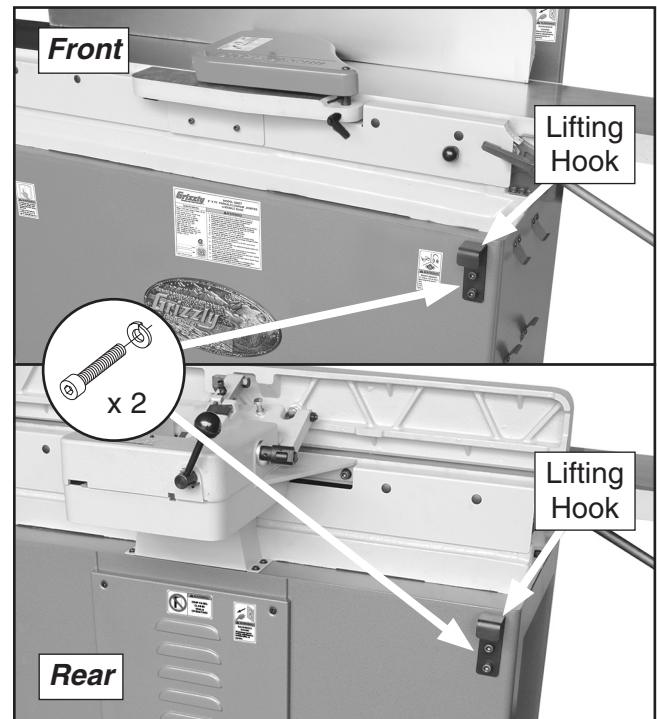

Figure 10. Lifting hooks attached.
3. If moving and placing machine with power lifting equipment, attach (2) lifting hooks to front and rear of jointer stand with (4) M8-1.25 x 20 cap screws and (4) 8mm lock washers (see **Figure 10**).